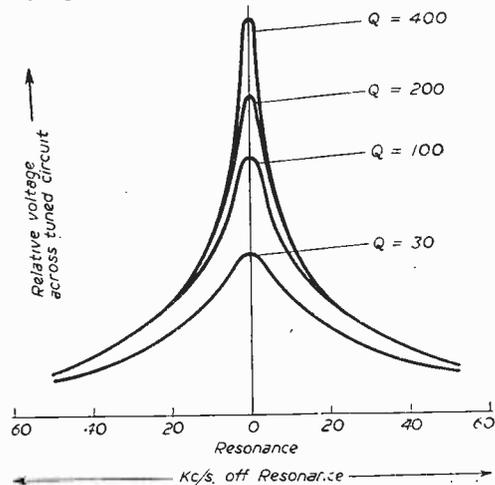

Fig. 52.—Effect of  $Q$  on selectivity.
**I**N addition to increasing the gain an increase in  $Q$  of a tuned circuit improves the selectivity as is shown in Fig. 52. The simplest way in which  $Q$  can be increased to take advantage of the increased gain and selectivity is by introducing positive feedback deliberately up to very near to the instability level. This is exactly what reaction is, and it is a very useful arrangement for a simple receiver giving quite appreciable R.F. gain, in effect. It will be seen, however, that bandwidth is severely restricted thereby, and it is hardly the measure to adopt for a quality receiver.